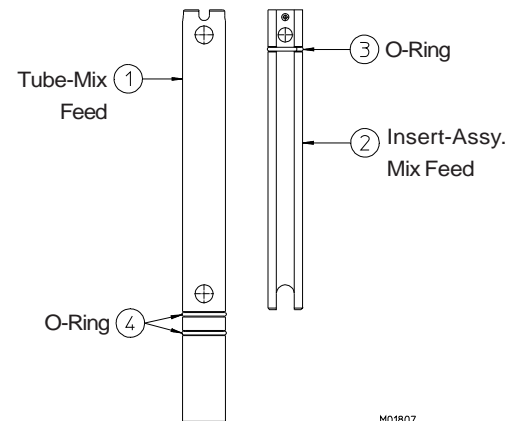

Figure 7-6
11. Hook the handle (8) into the slot on the plunger (6).
12. Install the plunger rod (7).
13. Install the pivot post (14) or mixer (optional).
14. Insert the keeper (11) through the holes in the handle (8) and head (1) and lock in place. **Do not lubricate.**
16. See Figure 7-6. Install the o-ring (3) on the mix feed insert (2) and lubricate. Then install the o-rings (4) on the mix feed tube (1). The mix feed tube o-rings do not need to be lubricated.